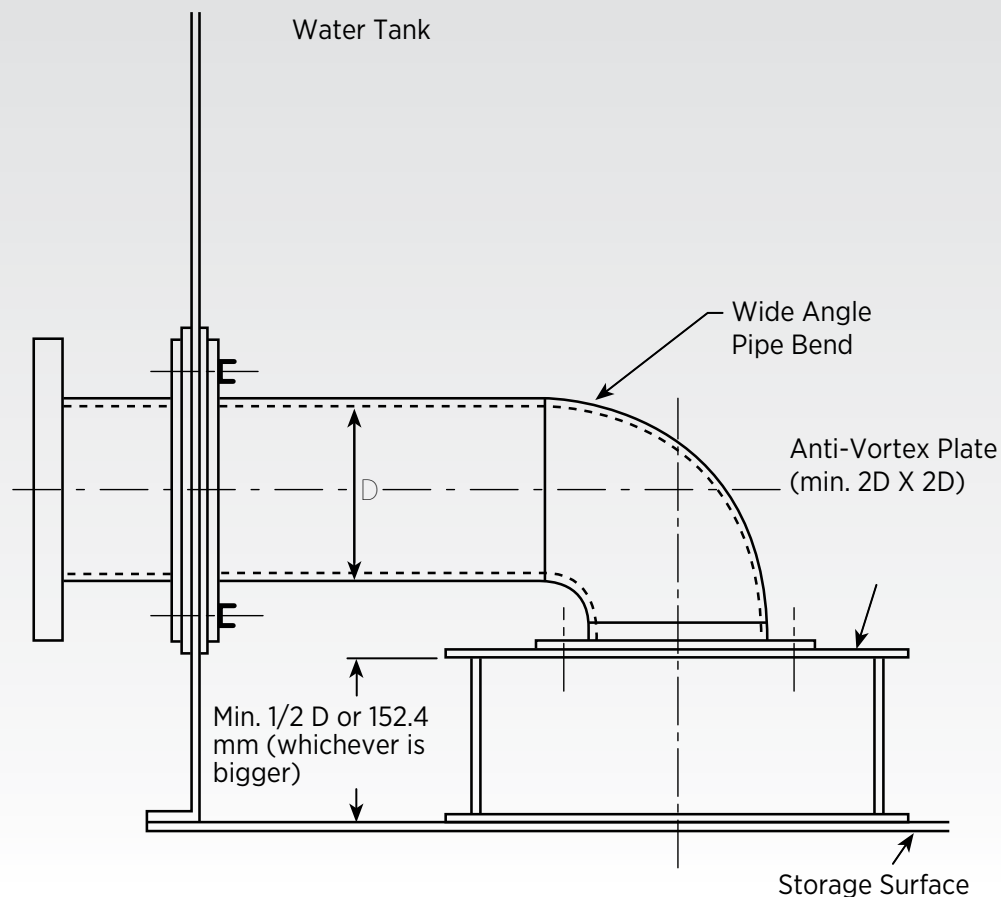

Figure 3: Vortex Plate Dimensions
- If the fire pumps draw water from a tank, a vortex plate shall be installed. The dimensions of the vortex plate should be as follows. The dimensions of the vortex plate are given in Figure 3.